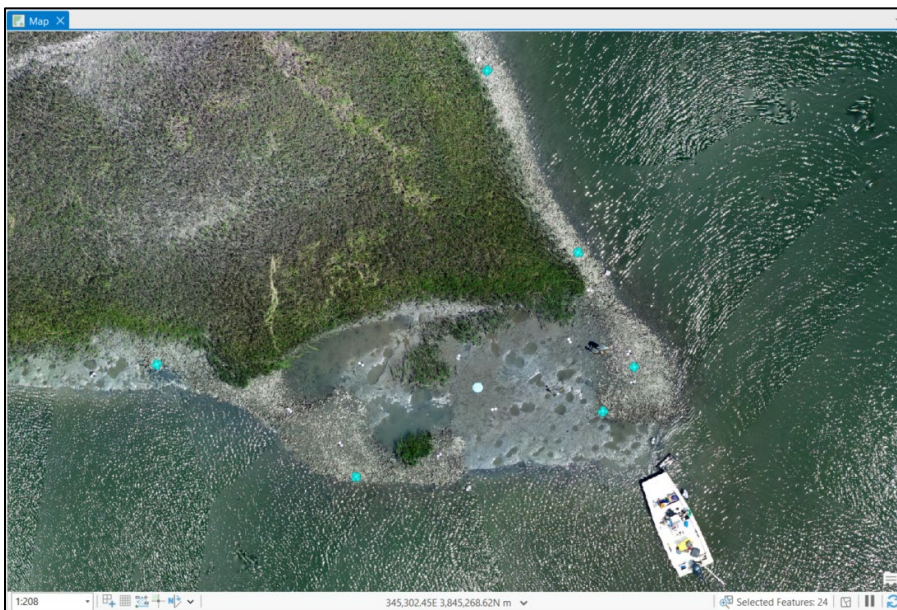

Figure 1. Screenshot of a pre-extraction orthomosaic, with the coordinates of the corners of six RTK quadrats converted to XY data (highlighted in turquoise).
- a. Right click on the .csv file added in the Table of Contents (under “Standalone Tables”) → Create Points from Table → XY Table to Point (Fig. 1).